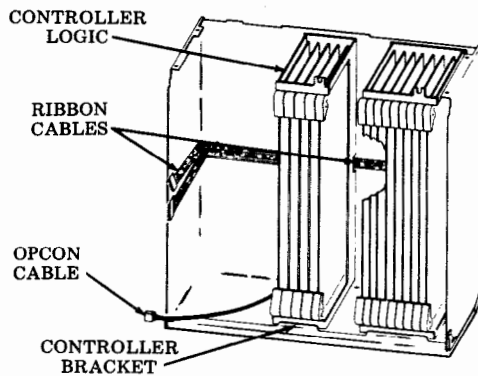

Fig. 31
Step 13 — Position controller bracket over guide in the frame. Route cables as shown (Fig. 31) (flat cable in center and opcon cable near front of cabinet). Slots in controller must fit over ribbon cable from the display logic.